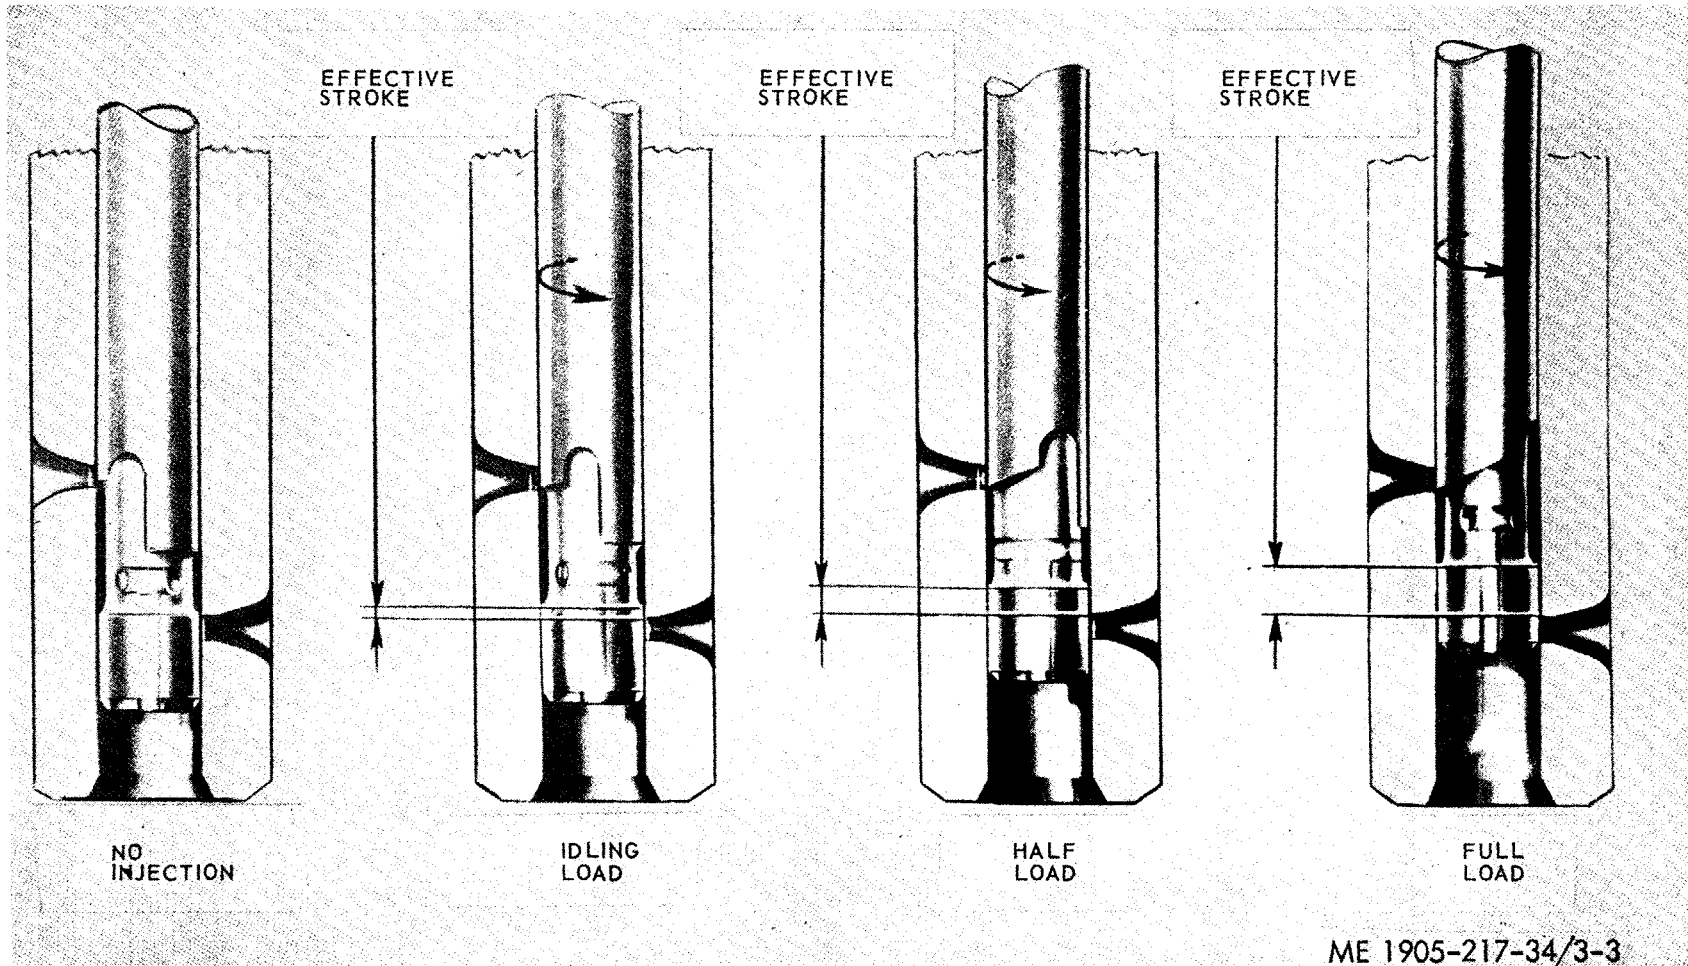

Figure 3-3. Fuel metering from no load to full load.
(2) Figure 3-3 illustrates the fuel metering from no load to full load by rotation of the plunger in the bushing.
(7) The fuel injector outlet opening through which the excess fuel oil returns to the fuel return passage and then back to the fuel tank, is directly adjacent to the inlet opening and contains a filter element exactly the same as that in the inlet side.
(8) Changing the position of the helices, by rotating the plunger, retards or advances the closing of the ports and the beginning or ending of the injection period. At the same time, it increases or decreases the amount of fuel injected into the cylinder. Figure 3-3 shows the various plunger positions from NO LOAD to FULL LOAD. With the control rack pulled out all the way (no injection), the upper port is not closed by the helix until after the lower port is uncovered. Consequently, with the rack in this position, all the fuel is forced back into the supply chamber so no injection of fuel takes place. With the control rack pushed in (full injection), the upper port is closed shortly after the lower port has been covered thus producing a maximum effective stroke and maximum injection. From this no injection position to full injection position (full rack movement), the contour of the upper helix advances the closing of the ports and the beginning of injection.